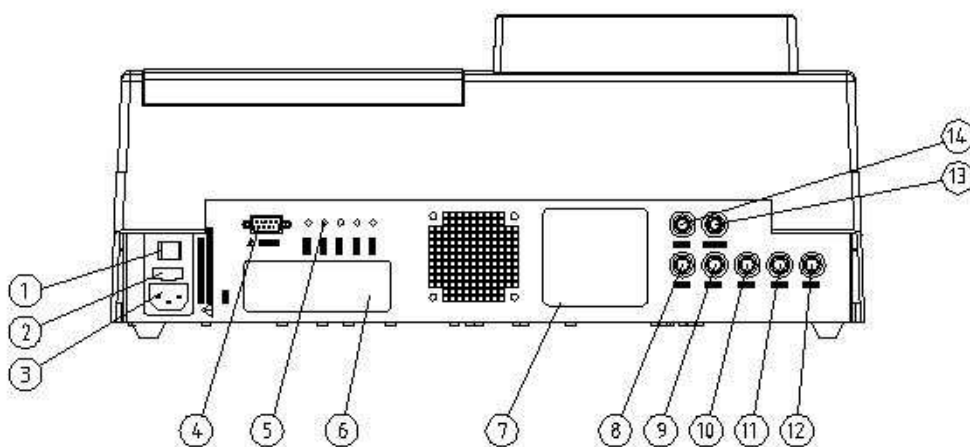

Fig. 1-2 Back view of the instrument
- Connect the tubing: As shown in Fig. 1-2 and 2-1, towards the rear side of the instrument, from left to right, connect the tubing of the waste bottle, wash bottle 1, wash bottle 2, wash bottle 3 and distilled water bottle according to the sequence of the bottles; Among them, the negative pressure port of the waste bottle is connected on the top of the tubing (corresponding to the same interface color).